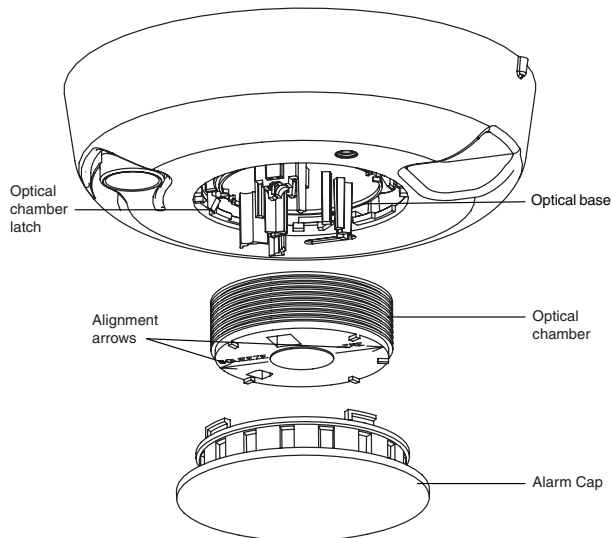

Figure 5. Smoke Alarm Parts
4. Squeeze the optical chamber where indicated and pull it up and away from the optical base and discard. See Figure 5.